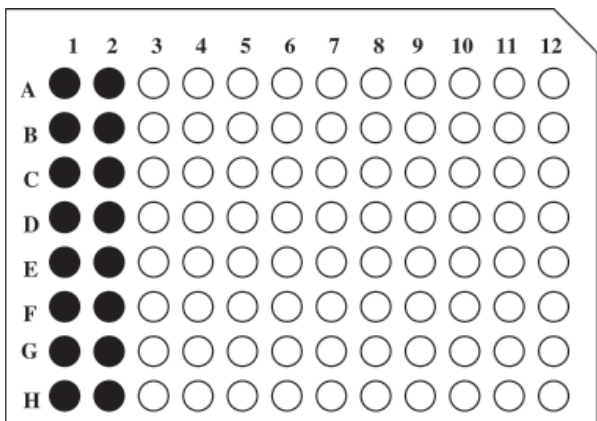

Fig 3. Matrix standard loading positions.
4. Briefly centrifuge the tube and dispense 10 μ l of the DYEnamic ET Terminator Matrix Standard into a 96-well plate as shown below (Figure 3). It is crucial to centrifuge the plate to position the samples at the bottom of each well.